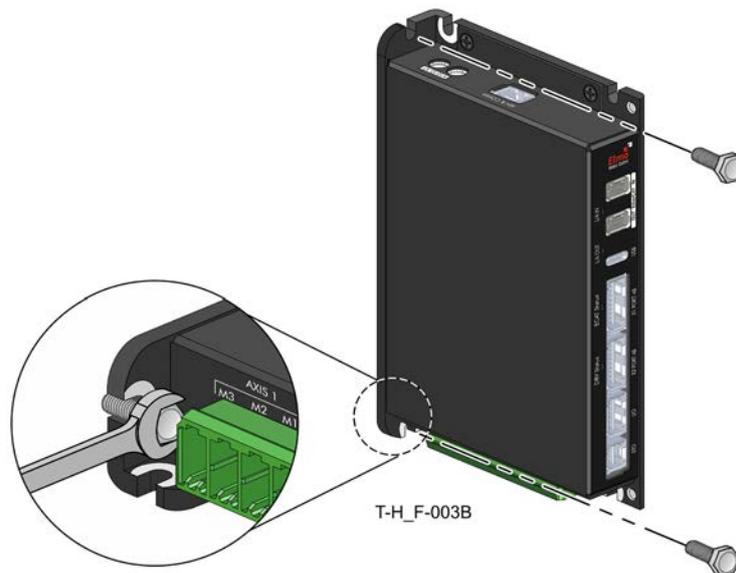

Figure 2: Rear-side wall-mounting Titanium Falcon
- For Rear-side wall-mount: Mount the Titanium Falcon with two M4 screws. Slide the screw into the securing slot before tightening it with the spanner. See Figure 2.